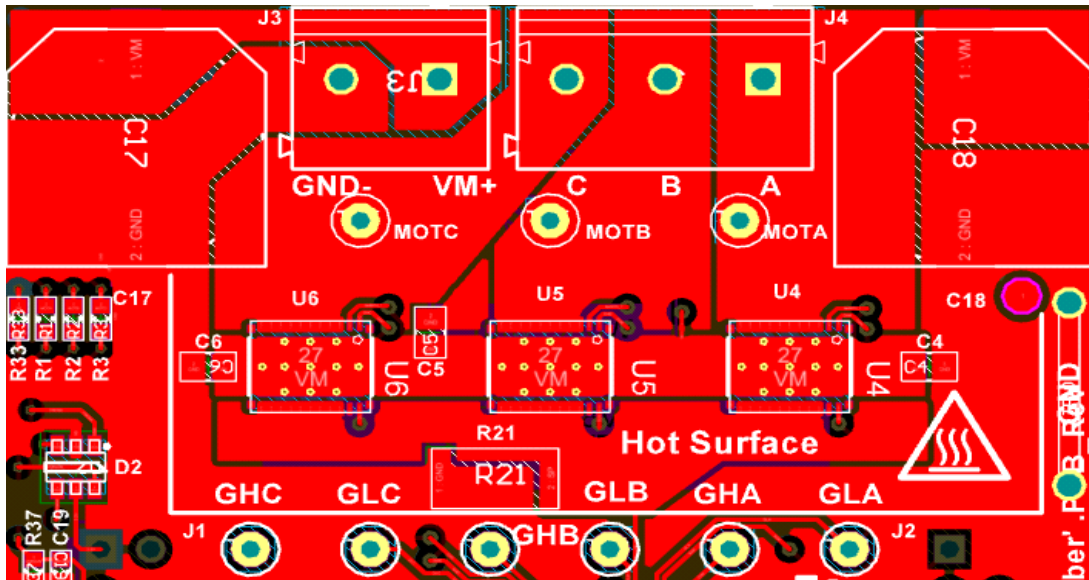

図 6-2. Top Layer
- Use the smallest drill size allowed by the design. The example in Figure 6-2 uses vias with a 10mil drill hole and a 16mil solder pad.